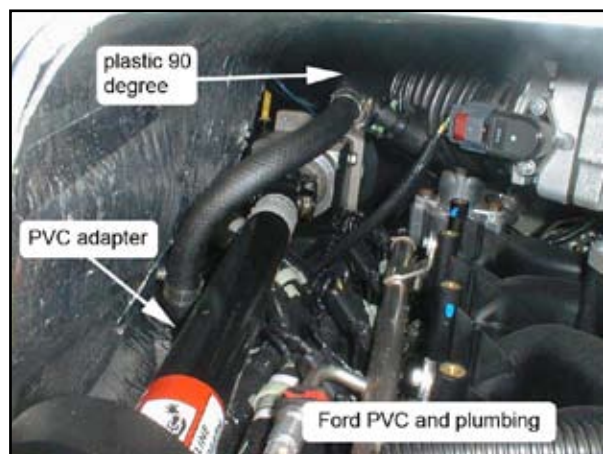
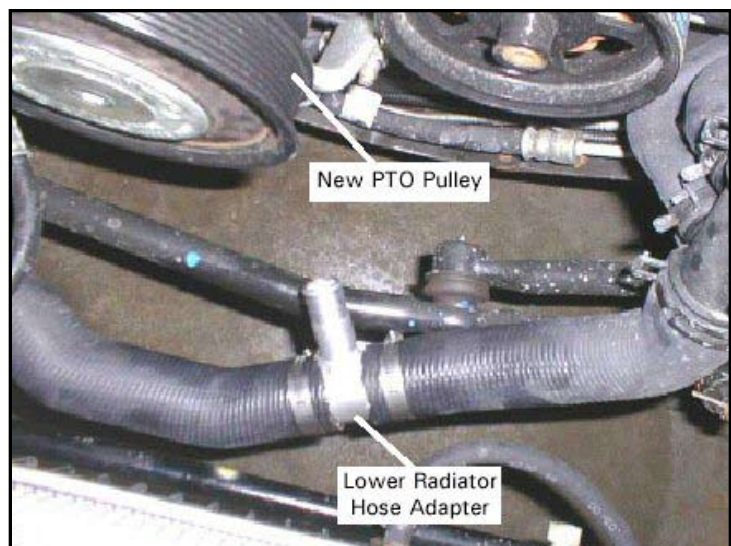

Figure 7. Install Modified Elbow
Figure 8. Install Adapter Tee
Make sure to leave enough material to epoxy new breather adapter barb. Lightly sand the outside of the breather nipple and the inside of the new PVC elbow (included in kit). Use J-B weld® or equivalent epoxy to join the two pieces together. Install the modified elbow so that it points towards the driver's side of the vehicle. See Figure 7 and Figure 8. Re-attach the hose after the epoxy cures.
- Cut lower radiator hose and install aluminum adapter tee. See Figure 8.